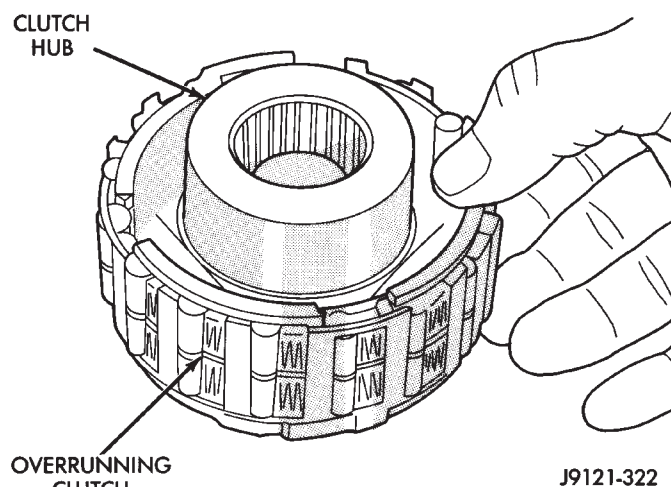

Fig. 281 Assembling Overrunning Clutch And Hub
(8) Install overrunning clutch on hub (Fig. 281). **Note that clutch only fits one way. Shoulder on clutch should seat in small recess at edge of hub.**